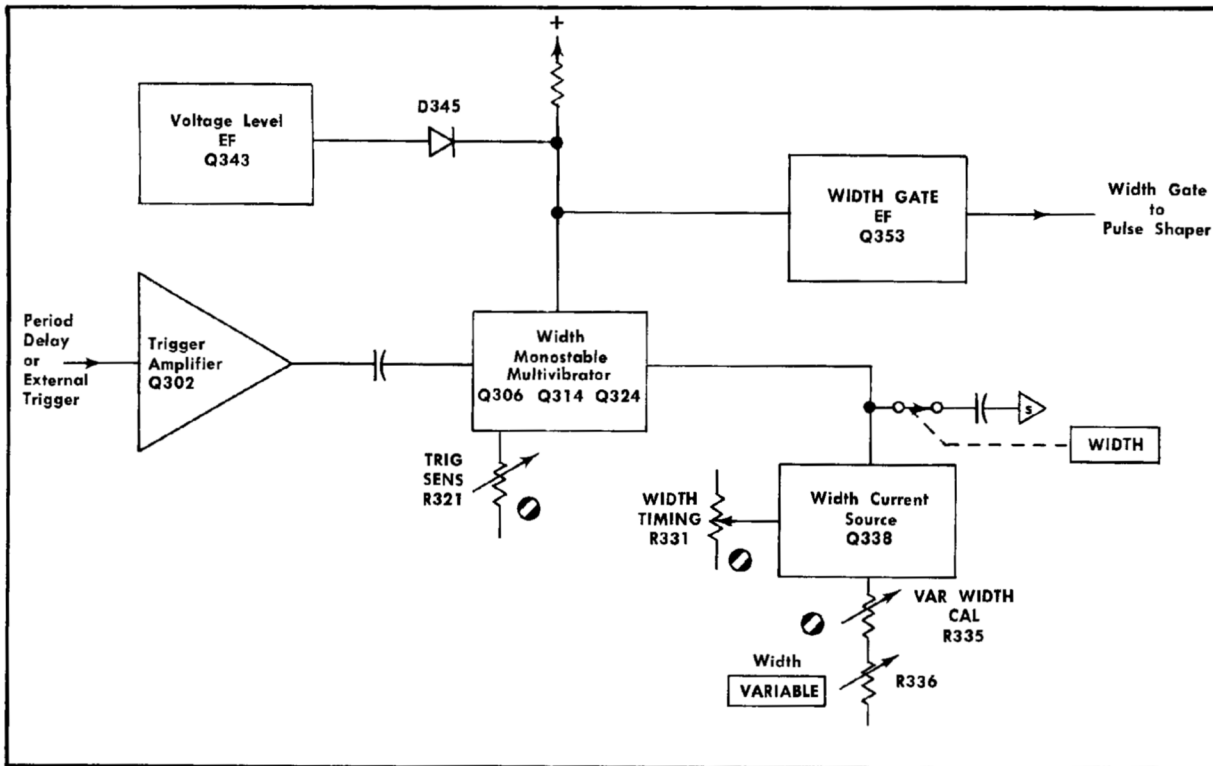

Fig. 3-5. Block Diagram of the width generator circuit.
**Width Generator.** The width generator is identical in operation to the delay generator except that it has no trigger amplifier stage. The only output of the width generator is a width gate. The width generator consists of input amplifier Q302 (see Fig. 3-5), multivibrator Q306, Q314 and Q324, current source, Q338, clamp circuit Q343 and width gate amplifier Q353.